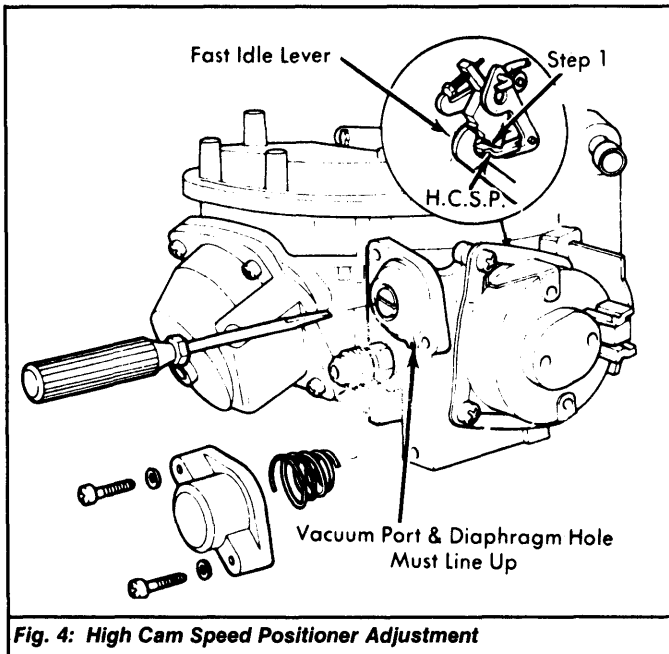

Fig. 4: High Cam Speed Positioner Adjustment
2) With diaphragm cover removed, turn diaphragm assembly clockwise until bottomed on casting. Now rotate diaphragm counterclockwise 1/2 to 1 1/2 turns until vacuum port is aligned with diaphragm hole. Install diaphragm cover. See Fig. 4.